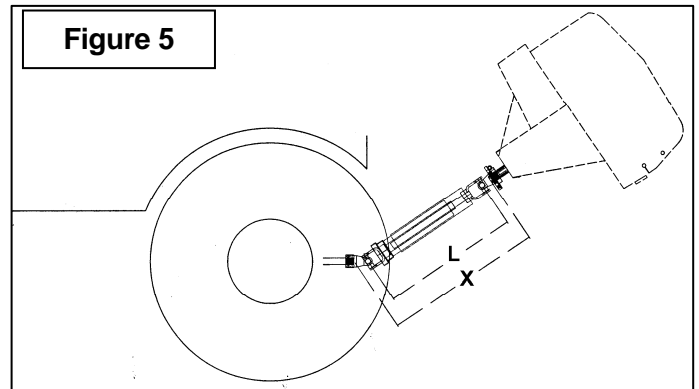

Figure 5
1. To determine the "L" length for your tractor model first find the "X" factor by measuring the horizontal distance between the end of the tractor's drive shaft and the end of the snowblower's driven shaft when the snowblower is in transport position as shown on **Figure 5**.